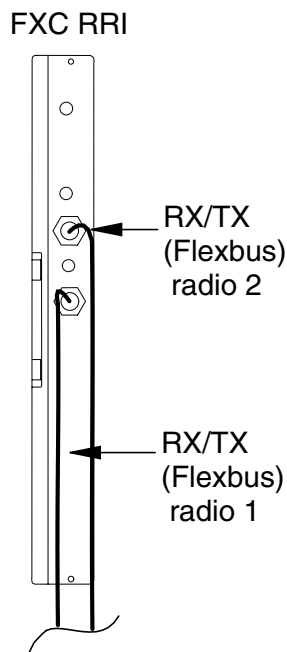

Figure 23. Cabling of the FXC RRI transmission unit
- Connect the RX/TX (Flexbus) cable from the radio outdoor unit to the TNC connector(s) on the FXC RRI transmission unit (see Figure 23).